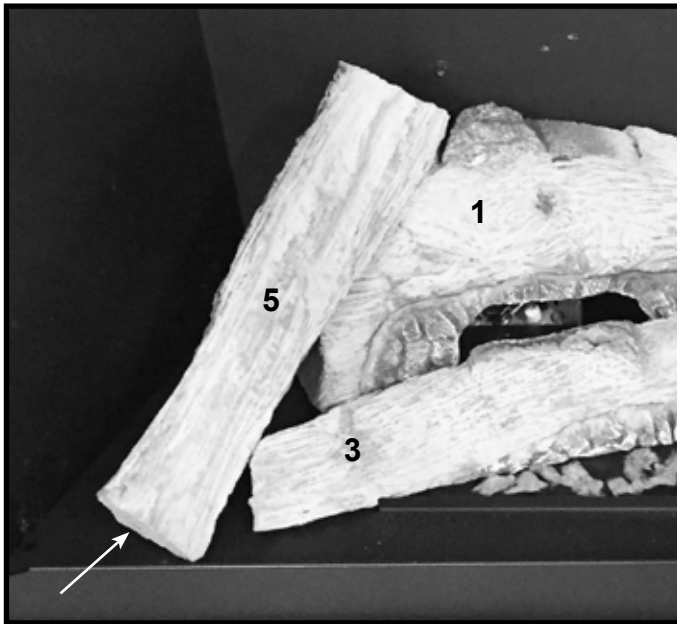

Figure 9. QUARTZ36: Install Top Left Log
7. **QUARTZ36 ONLY:** Locate and install Top Left Log (5). This Log does not have any “burn out” features painted on the log. The “left” end of this log will rest on the base pan and the “right” end will rest on the “left” end of Left Rear Base Log. See Figure 9.